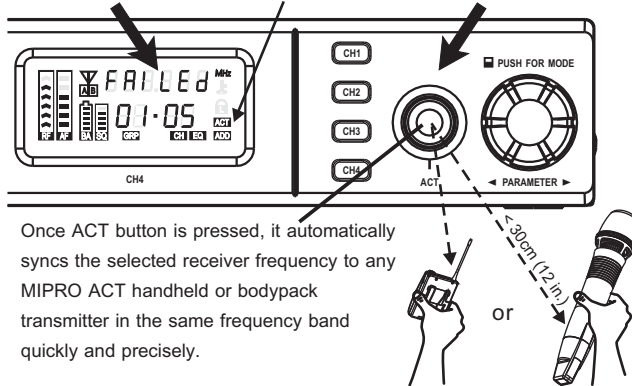

Fig.24
- (1) Align both infrared ports of transmitter and receiver. Press the ACT button on the receiver, the word “Sync” is displayed to denote frequency synchronization is in progress. FAILED appears after 10 seconds if the synchronization was performed unsuccessfully. Repeat ACT synchronization set-up.
- (2) For a successfully ACT frequency synchronization, make sure transmitter is powered on, infrared ports are facing each, and within 30cm distance, Fig.24.
- (3) A successful ACT synchronization transmits both frequency and a randomly generated encrypted key to the transmitter.